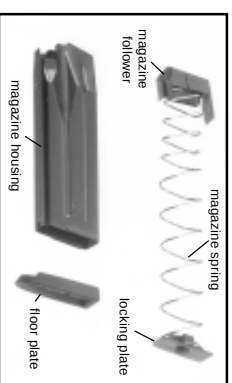

Figure 11A Assembly of Magazine Follower & Spring
3. Place the locking plate onto the protruding end of the magazine spring so that the locking detent is visible (See Figure 11A).